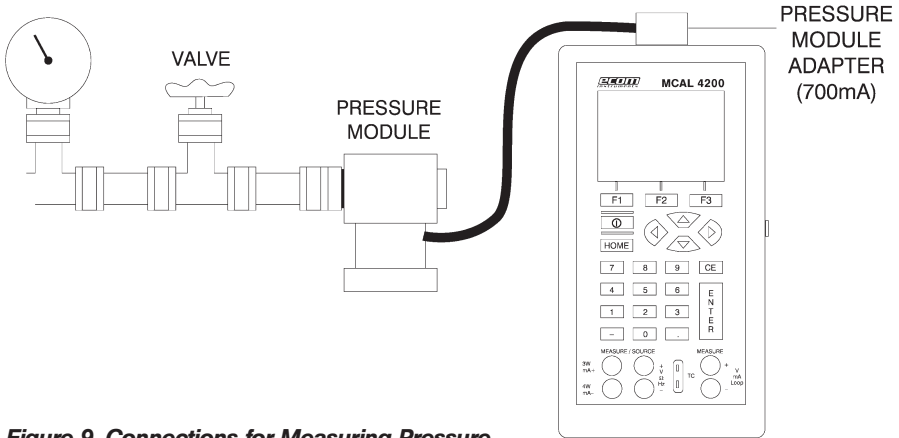

Figure 9. Connections for Measuring Pressure
1. Connect the pressure module to the calibrator as shown in Figure 9. using the 700mA pressure module adapter.